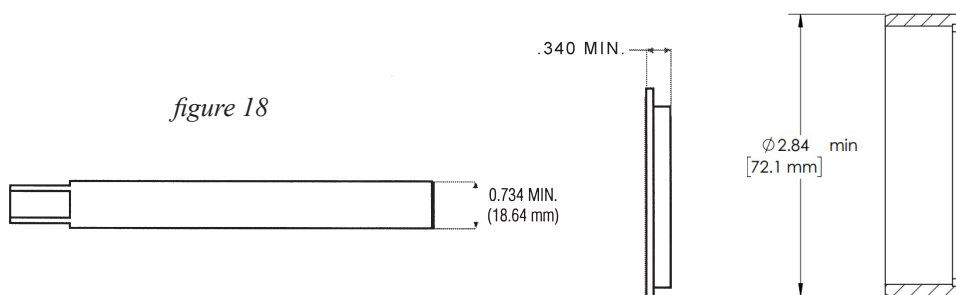

figure 18
- Check for cracks or excessive wear on the shaft (item 6), impeller thrust ring (item 4A) and rear sealing ring (item 8A). Replace if cracked or excessively worn. See figure 18.